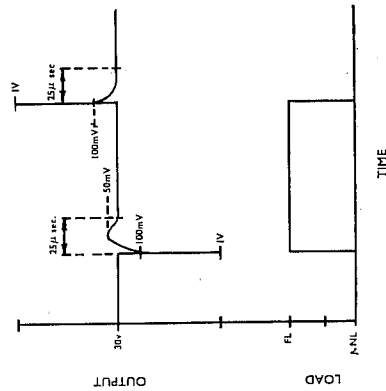

Fig. 1. Pulse Response
- ii) *Transient response* - The typical response to a pulsed load is shown in fig. 1.